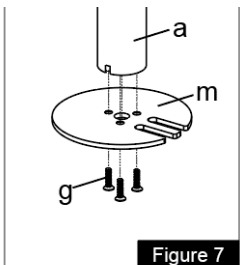

Figure 7
1. Position the Pole (**a**) on the mounting surface and mark the center hole. Drill a 3/8" (10mm) diameter hole at the marked position through the mounting surface. Install the Grommet Base Plate (**m**) to the Pole (**a**) using 3pcs M5x14 Bolts (**g**), and tighten using the Allen Key (**o**), see *Figure 7*.